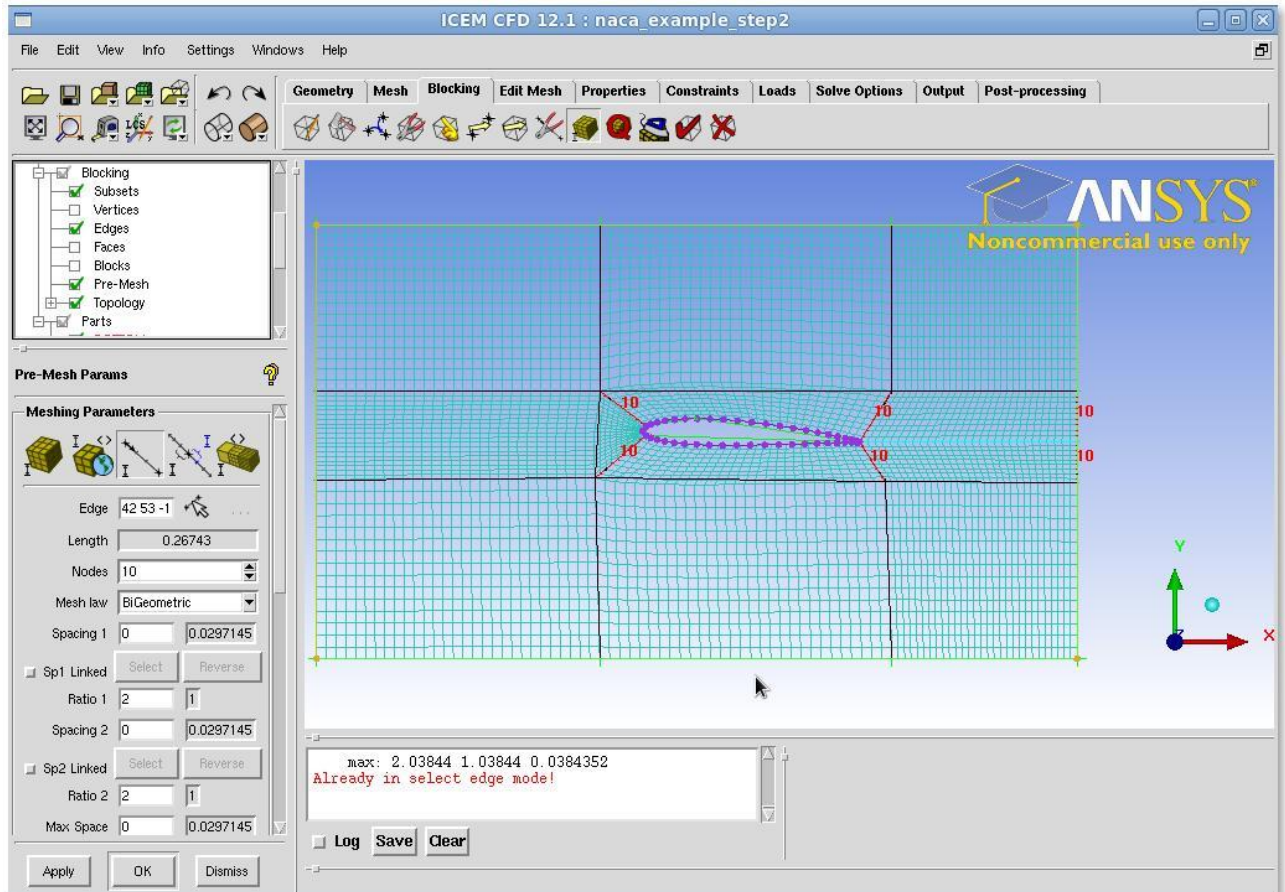

*Figure 9: Setting up the Linear Point to nap the Mesh to the Outside of the Aerofoil*
- This should look like Figure 9.